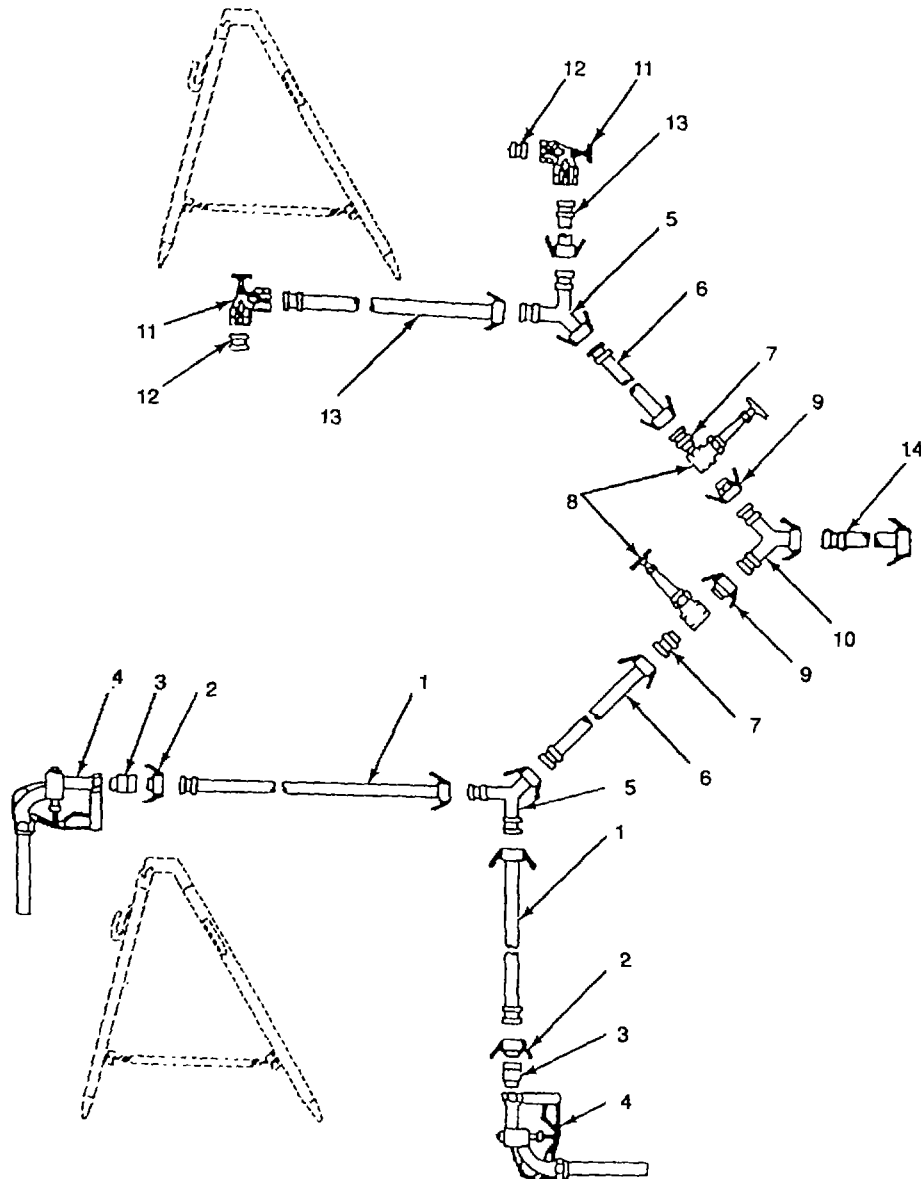

Figure 2-46. Disassemble Distribution Point
- (8) Push cam arms forward to open and remove female end of coupling half (2) from male quick-disconnect coupling (3).
- (9) Unscrew and remove male quick-disconnect coupling (3) from discharge port (4).
- (10) Refer to appropriate technical manual for cleaning and disassembly procedures for the hypochlorination unit.
- (11) Push cam arms on reducers (2) forward to open. Remove two nozzles (4, Figure 2-46) with attached hose swivels (3) from ends of hose assemblies (1).
- (12) Unscrew and remove male end of reducers (2) from hose swivels (3) attached to nozzles (4).
- (13) Remove hose swivels (3) from nozzle (4).
- (14) Push cam arms on discharge hose (1) forward to open. Remove hose (1) from end of wye-connection (5).
- (15) Push cam arms on wye-connection (5) forward to open. Remove wye-connection (5) from end of hose (6).
- (16) Push cam arms on discharge hose (6) forward to open. Remove hose (6) from male quick-disconnect coupling half (7) attached to gate valve (8).
- (17) Push cam arms on female male quick-disconnect coupling half (9) forward to open. Remove gate valve (8) with attached coupling half (9) from end of wye-connection (10).
- (18) Remove male quick-disconnect coupling half (7) and female quick-disconnect coupling half (9) from ends of gate valve (8).
- (19) Push both sets of cam arms on elbow valves (11) forward to open. Remove two dust plugs (12) from ends of elbow valves (11).